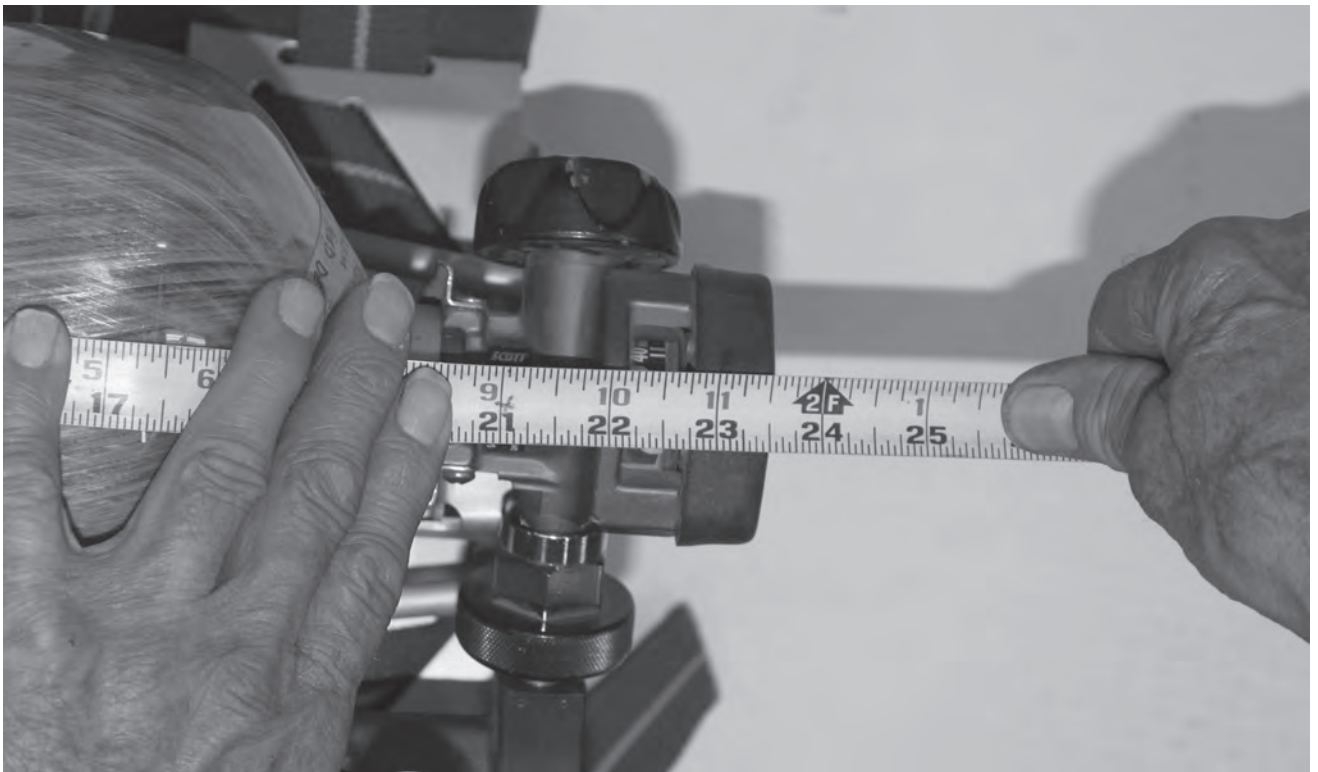

Figure 4
6. Remove the (4) T-27 torx head screws that are holding the Upper Bracket Assembly in place. Be sure not to let the weight of the Upper Bracket hang on the Adjustment Rod before reattaching.
7. Reattach the Upper Bracket Assembly in the desired position using the (4) T-27 torx head screws.
8. If using this bracket with a 30 min. 5500 PSI air cylinder, refer to page 20 now. Otherwise, reattach the Bumper Spacer Locator to the Upper Bracket Assembly with the (2) #2 Phillips head screws.
10. Measure the overall length of your desired air cylinder from bottom of the air cylinder valve to top of the air cylinder (*see Figure 4, below*). Add 1/2" to this measurement.